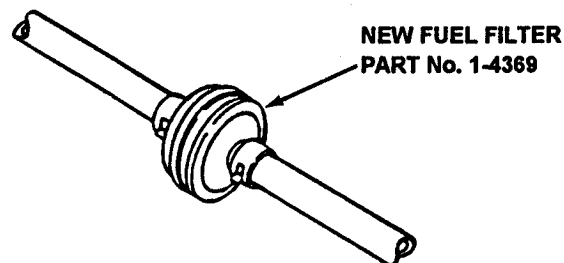

FIGURE 27
5. Install a new SNAPPER Part Number 1-4359 Fuel Filter in place of the old Filter. Re-install the Hose Clamps and reconnect the Fuel Lines. See Figure 27.